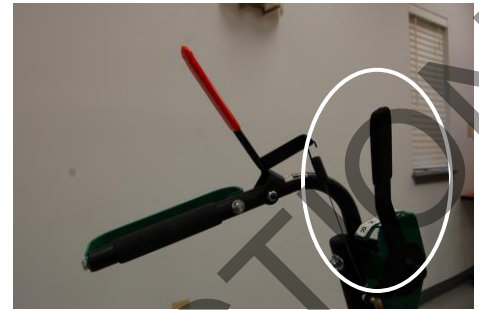

Fig. 4 Left Handle
1. Select the desired direction and speed. (See Fig. 4)